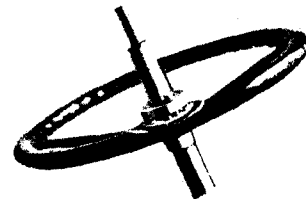

Fig. 99—Removing Steering Wheel
*Remove the nut which holds the steering wheel in place using socket wrench No. 84492 and with Cadillac puller No. 83220, (see Fig. 99) remove the wheel.